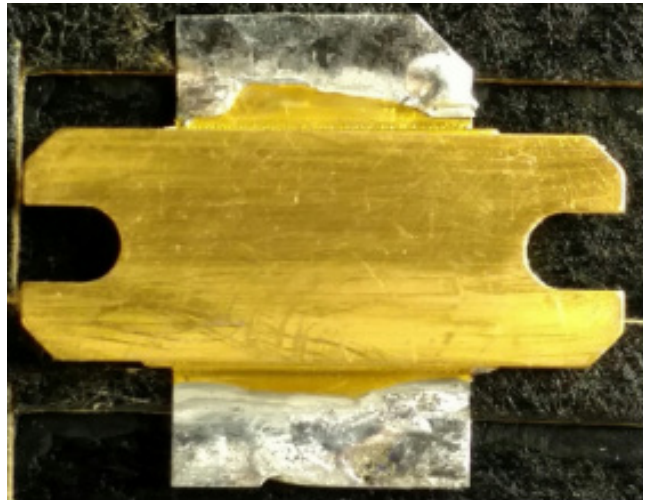

FIGURE 1: Example of a transistor with poor lead tinning coverage.
- A fixture is required for tinning to hold the transistors and achieve the correct lead coverage, as well as protect the flange from solder splashes. Tinning is often performed on the top and bottom of the transistor leads with a soldering iron. The tip temperature should be < 350 °C for Sn63 solder. It is desirable to pre-heat the transistor to about 140 °C to minimize the time above reflow and reduce the heat required from the iron. It also helps the entire lead to reflow. The tinning on the bottom of the lead should cover up to within 0.020" of the ring frame. The height of the solder should be kept to less than 0.002" on the bottom of the lead to prevent mechanical interference when inserting the transistor into the well. Figure 1 shows an example of a poorly tinned transistor lead. The distance from the lead-frame to the tinning is too great and inconsistent. A large distance will place a series inductance between the transistor and the PCB matching circuit, and this inductance will cause the incorrect impedance to be presented to the transistor.